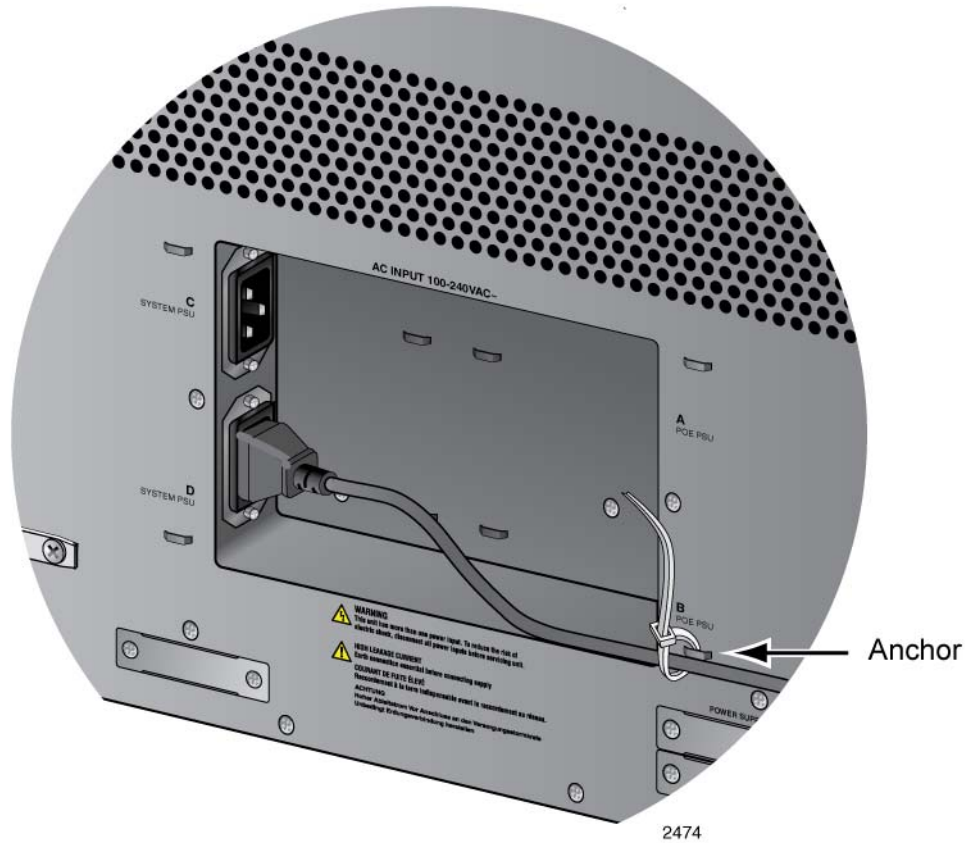

Figure 102. Securing the Power Cord for the AT-SBxPWRSYS1 AC Power Supply to an Anchor
3. Use the twist tie included with the power supply to secure the cord to an anchor on the chassis to protect it from being accidentally pulled out, as shown in Figure 102 on page 167.